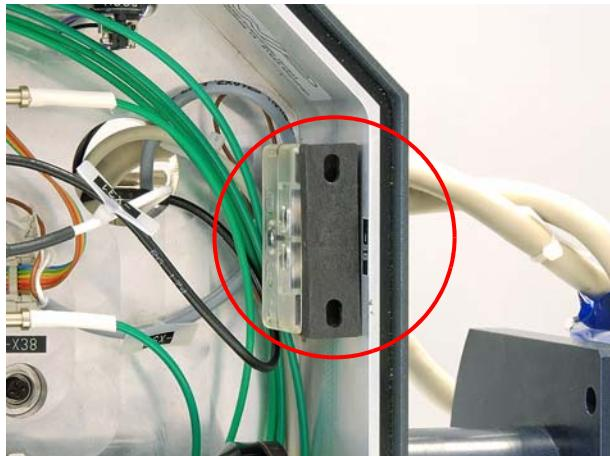

Figure 7.122 Interlock switch bridged
1. Bridge the interlock switch (Figure 7.122).